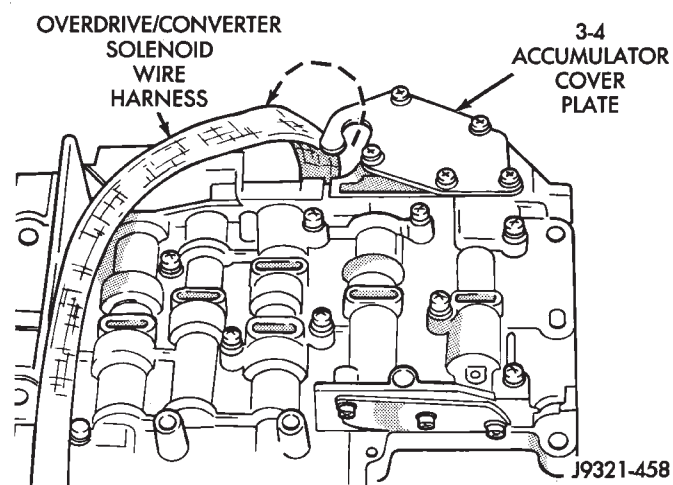

Fig. 96 Unhooking Solenoid Harness From Accumulator Cover Plate
(8) Unhook overdrive/converter solenoid harness from 3-4 accumulator cover plate (Fig. 96).